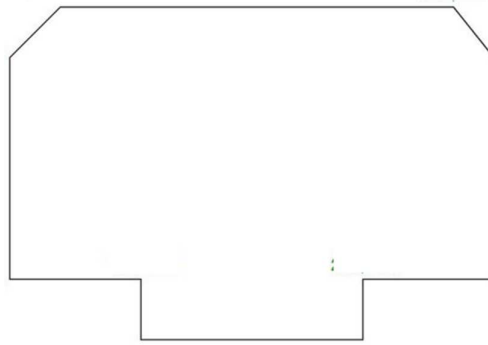

Figure Q3c
- c) Discuss how to draw figure Q3c using the following point entry techniques